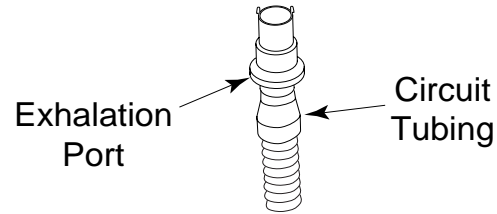

Figure 4-4 Connect the tubing to the Exhalation Port
- STEP 2** Connect the open end of the circuit tubing to the exhalation port as shown in Figure 4-4. If you are using a mask that has the exhalation port built into the mask, connect the tubing directly to the mask and skip to Step 4.